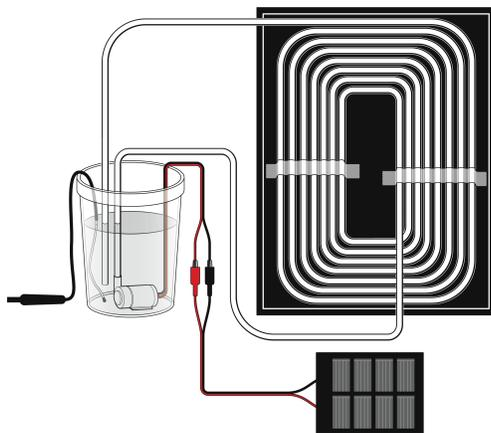

Figure 4
- b. Arrange the tubing in the box so water will flow through it. If necessary, tape down the tubing to hold it in place (see Figure 4).